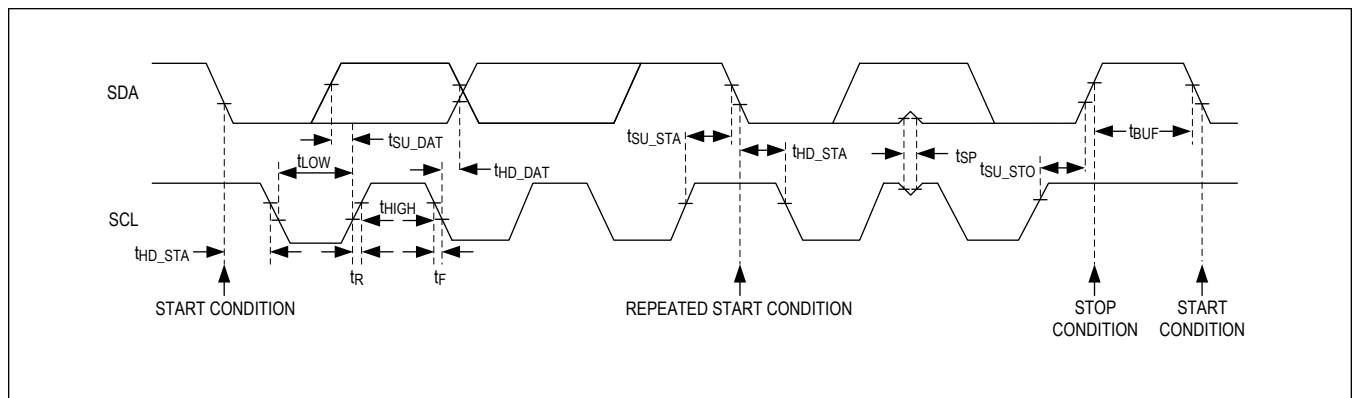

Figure 11. Detailed I2C Timing Diagram
The MAX30210 features an I2C/SMBus-compatible, 2-wire serial interface consisting of an SDA and SCL. The SDA and SCL facilitate communication between the MAX30210 and the controller at clock rates up to 400kHz. Figure 11 shows the 2-wire interface timing diagram. The controller generates SCL and initiates data transfer on the bus. The controller device writes data to the MAX30210 by transmitting the proper target address followed by the register address and then the data word. Each transmit sequence is framed by a START (S) or REPEATED START (Sr) condition and a STOP (P) condition. Each word transmitted to the MAX30210 is 8-bit long and is followed by an acknowledge clock pulse. A controller reading data from the MAX30210 transmits the proper target address followed by a series of nine SCL pulses. The MAX30210 transmits data on SDA in sync with the controller-generated SCL pulses. The controller acknowledges receipt of each byte of data. Each read sequence is framed by a START (S) or REPEATED START (Sr) condition, a not acknowledge, and a STOP (P) condition. The SDA operates as both an input and an open-drain output. A pullup resistor is required on SDA. The SCL operates only as an input. A pullup resistor is required on SCL if there are multiple controllers on the bus, or if the single controller has an open-drain SCL output. Series resistors in line with SDA and SCL are optional. Series resistors protect the digital inputs of the MAX30210 from high voltage spikes on the bus lines and minimize crosstalk and undershoot of the bus signals.
The detailed timing diagram is shown in Figure 11.